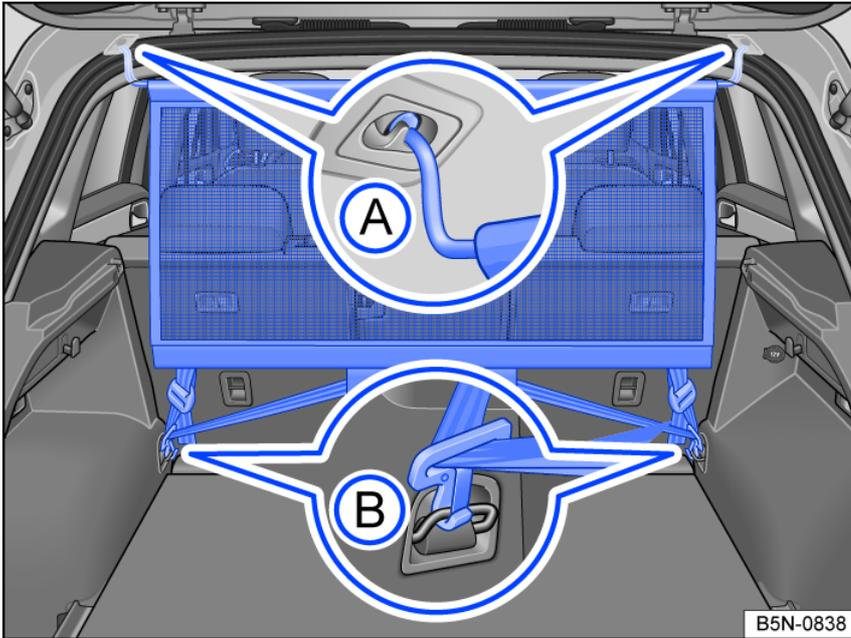

Fig. 156 In the luggage compartment: Install the net partition behind the rear bench seat.
- Attach the net partition to one of the two mounts in the roof *fig. 156* ①. Make sure that the crossbar is pulled down over the top position.
- Attach the net partition to the opposite mount in the roof by pressing together the crossbar *fig. 156* ①.
- Attach both retaining hooks of the net partition to the tie-downs in the luggage compartment and tighten the fastening straps *fig. 156* ②.
- Unhook the net partition retaining hooks from the tie-downs *fig. 156* ②.